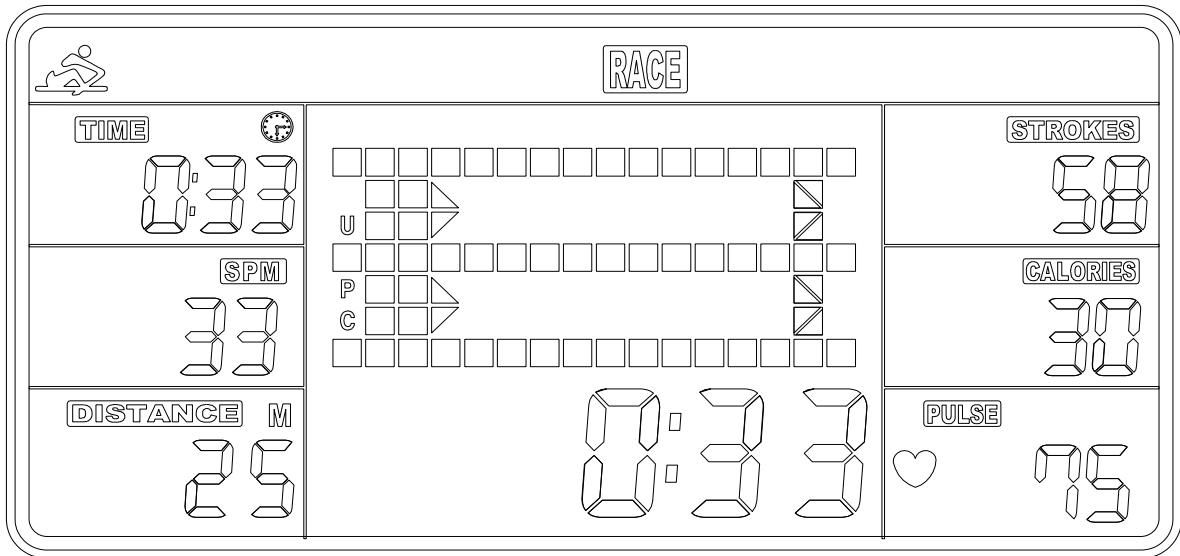
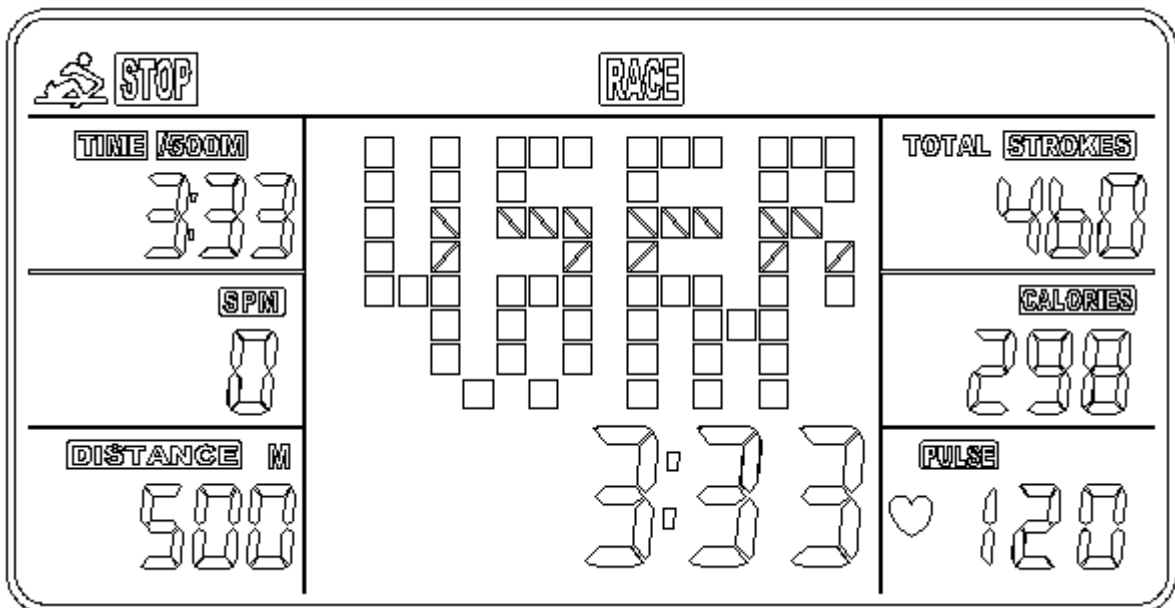

Fig 6
Fig 7
- a. Press START button to start and STOP icon will disappear. USER and PC will display in the matrix (Fig.6). The meter will stop when either the user or meter has reached the race distance that was set. Then, the matrix displays “PC WIN” or “USER WIN” (Fig.7).